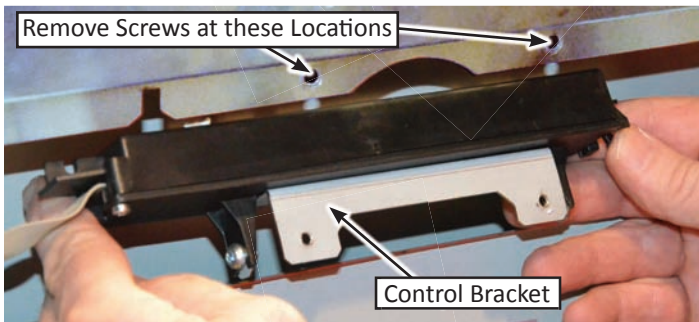

Figure 5
7. Remove (2) T10 Torx screws to release the control bracket, see figure 5.